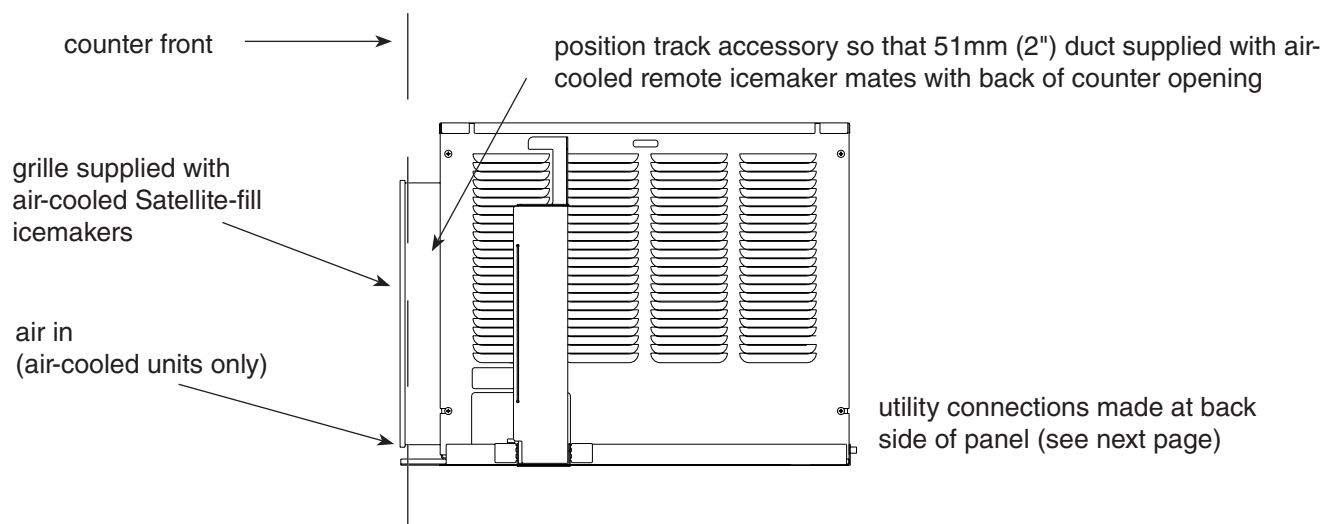

Fig. 3
2. Position track assembly on counter channels (Fig. 3).
1. Remove two outer rear screws from icemaker and install supplied spacer and screw (Fig. 3).